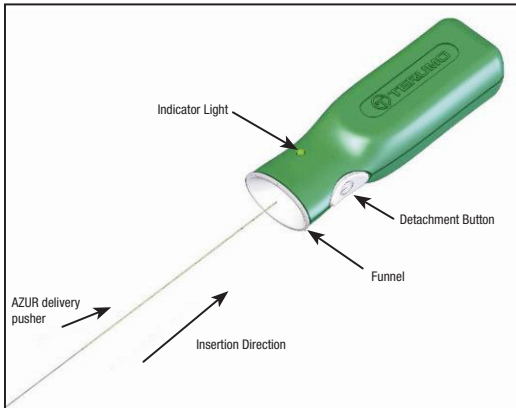

Figure 2 – AZUR Detachment Controller
15. Prior to using the device, remove the proximal end of the delivery pusher from the packaging hoop. Use care to avoid contaminating this end of the delivery pusher with foreign substances such as blood or contrast. Firmly insert the proximal end of the delivery pusher into the funnel section of the AZUR Detachment Controller. See Figure 2. **Do not push the detachment button at this time.**
36. Connect the proximal end of the delivery pusher to the AZUR Detachment Controller by firmly inserting the proximal end of the delivery pusher into the funnel section of the AZUR Detachment Controller. See Figure 2.